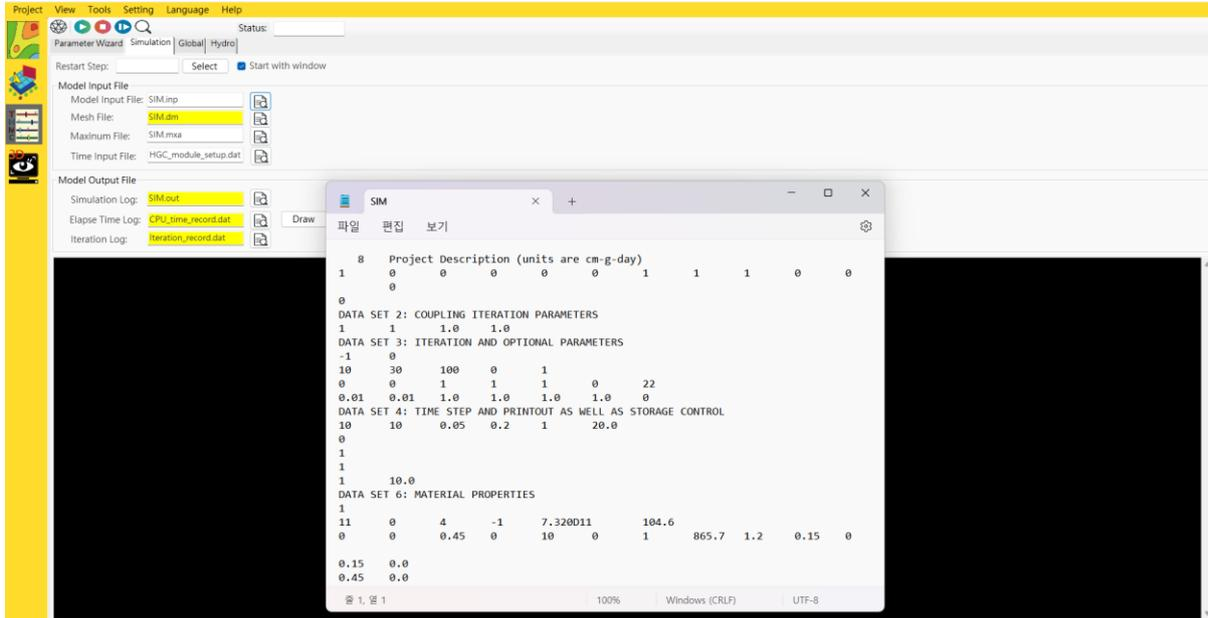

Figure 1.44. 'Sim.inp' file under Simulation tab.
17. Through steps 10 to 16, the input for the initial and boundary conditions has been completed. Under the 'Simulation' tab, you can view the input file generated based on the data entered so far as an ASCII file named 'Sim.inp' in the 'Model Input File' section, as shown in Figure 1.44.